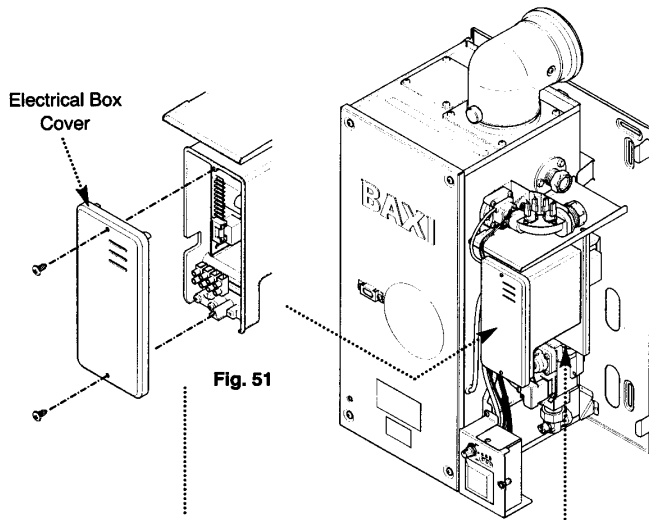

Fig. 51
1. Remove the two screws securing the main electrical box cover (Fig. 51).